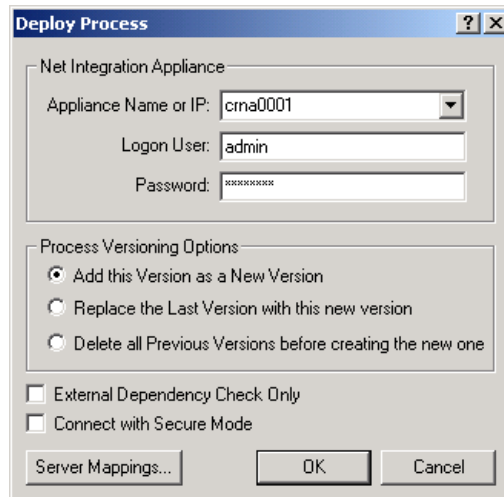

Figure 39-4. Deploy Process dialog with the device selected.
- ❶ To implement your model, choose **Deploy** from the Process menu.
- ❷ Choose the correct device you want to use from the drop-down list.
- ❸ Enter your username and password (see Figure 39-4, below).